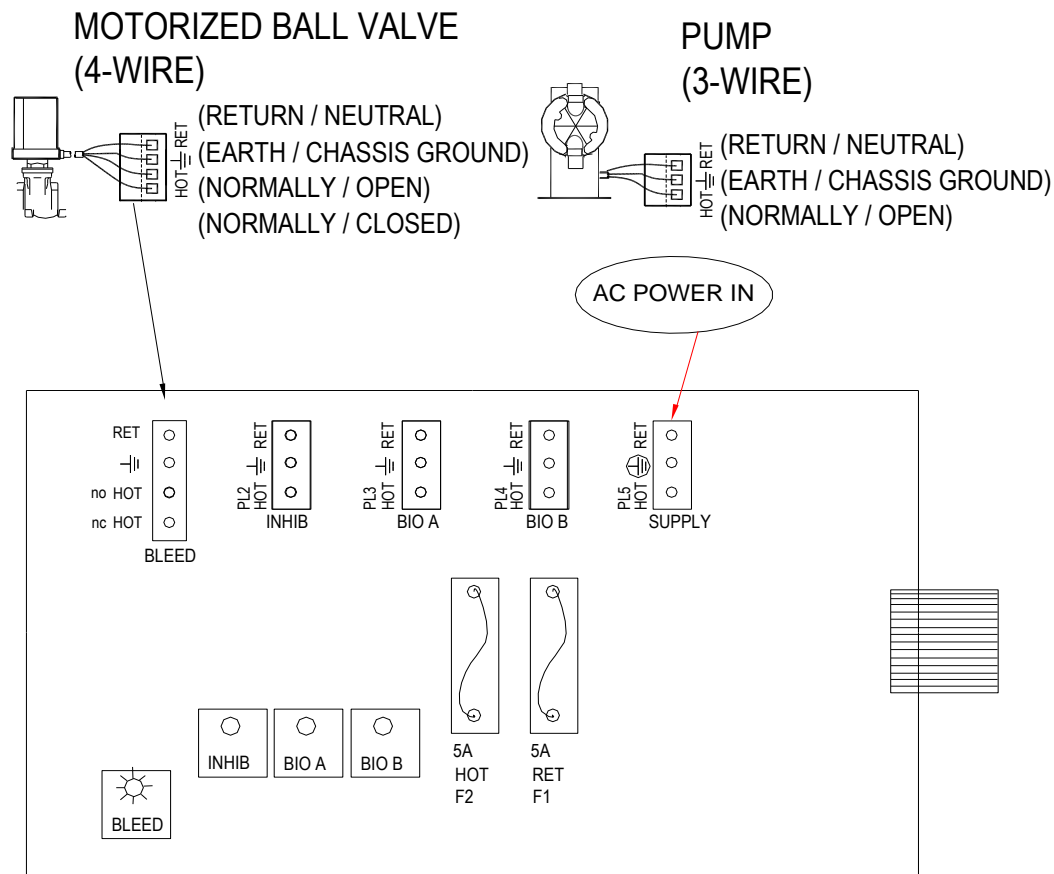

Fig. 6
The *MicroVision* electronic input circuitry is fuse protected on both the hot and neutral inputs using a replaceable five amp fuse (*Fig .6*).
Conduit controllers have openings for conduit connections for hard wiring. See Fig. 6 for input and output power connections. Use only 18 AWG (1,2 mm2) stranded wire
for conduit power and load connections. Supply (input) power is connected via **PL5** located on the relay board (Fig. 6). The top part of this terminal block is removable to allow for easy access to the connector's three (3) screws.
The low voltage connections are found on the low voltage (right side) board (Fig. 6). Use 22-24 AWG (.76 mm2) wire for: flow switch, drum levels, dry alarm, and water meter connections. These signal wires must be run separate from AC power lines.